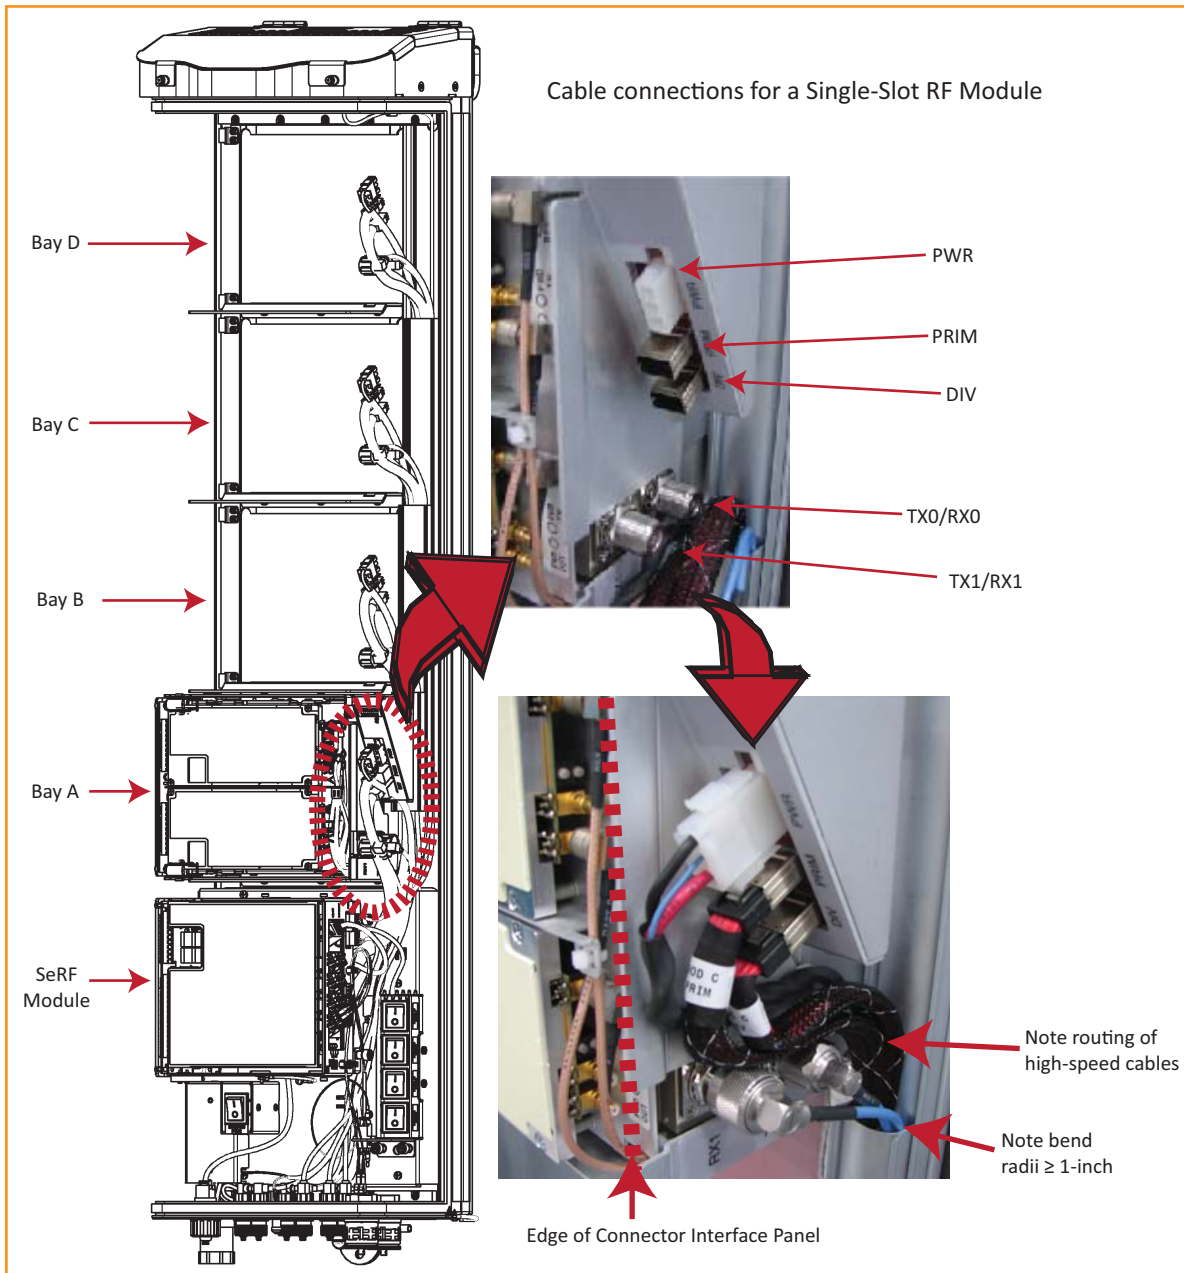
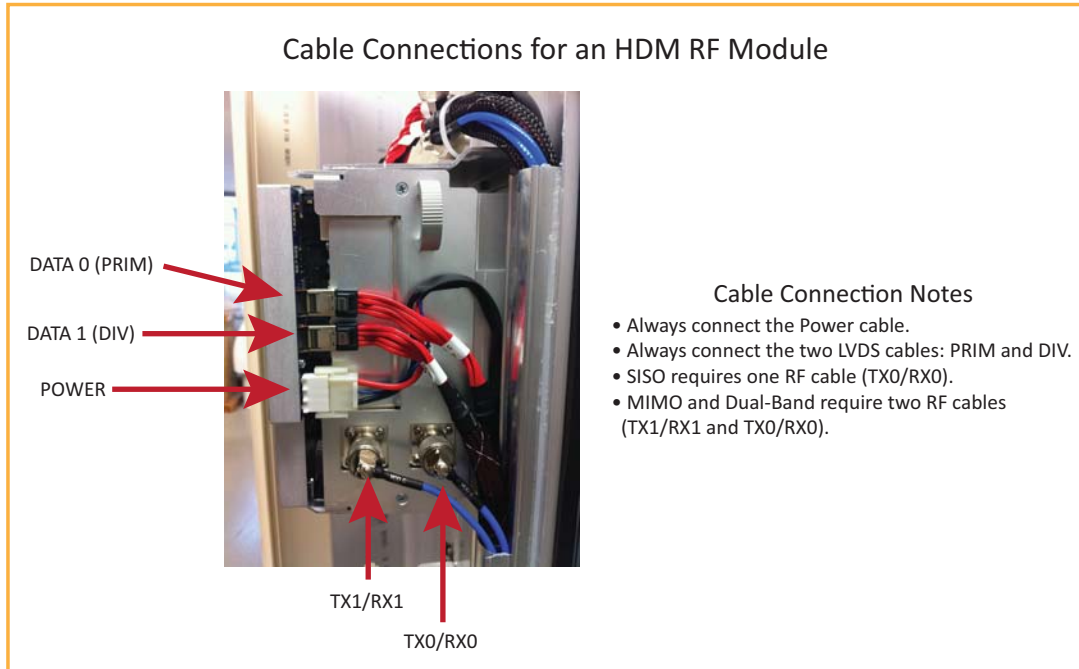

Figure 21. Cable Connections for Single-Bay RF Modules
Figure 22. Cable Connections for HDM RF Modules
- 3 Connect the RF Module cables, in the order shown below. As you work, refer to the graphic that corresponds to the RF Module being installed into a single bay of the PRU: for a Single-Bay RF Module, refer to Figure 21 on page 38, and for an HDM RF Module, refer to Figure 22 on page 39 and Table 13 on page 39.